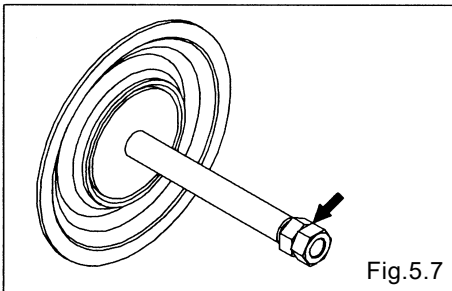

Fig.5.7
- Remove the center disk (outside) on the opposite side using the double nut. Then, remove the center disk (inside) and diaphragm. [Fig.5.7]